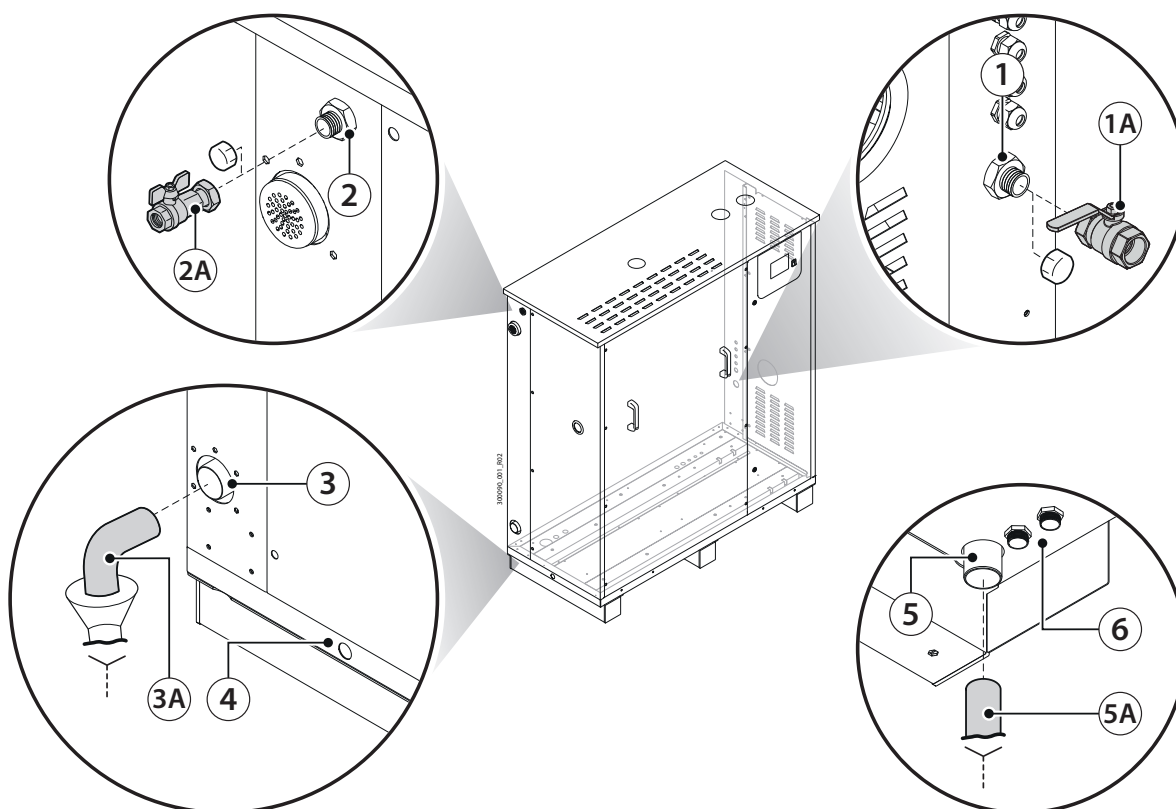

Fig. 7.a
- drain water: use non-conductive plastic tubing resistant up to 100°C (212°F), with an inside diameter of 50 mm (1.96") (3A, 5A - Fig. 7.a);